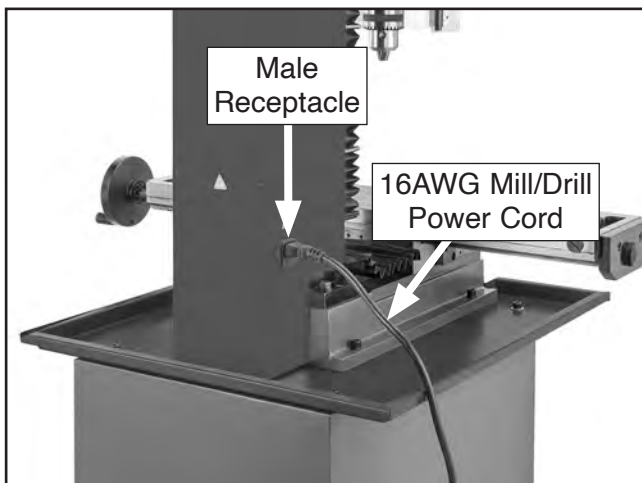

Figure 19. Power cord connected to mill/drill.
2. Connect 16AWG mill/drill power cord to male receptacle on column (see **Figure 19**).